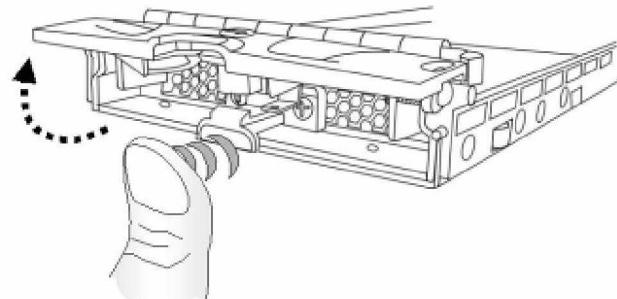

Figure 2-6: Opening the Drive Tray Front Flap
- Step 2.** *Open the front flap on the drive tray* (see **Figure 2-6**) by pushing the release button on the front of the drive tray. The front flap will open in an upward direction.